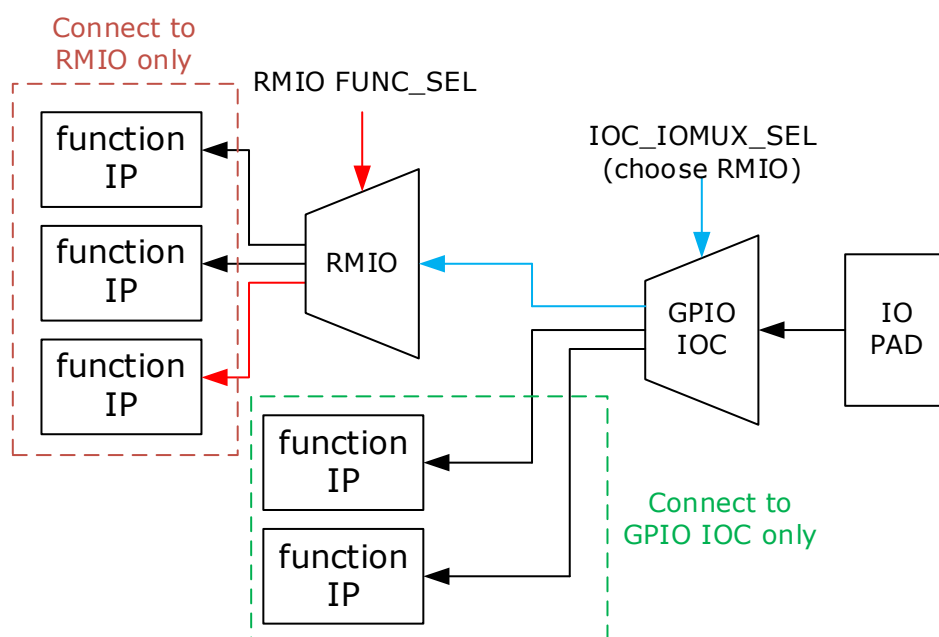

Figure 23-2 Some IPs are connected to the IO PAD through RMIO and IOC
2) As shown in the Figure 23-2, some IP will be connected to the IO PAD via RMIO and IOC. In this case, you need to configure IOC_IOMUX_SEL to select RMIO and then configure RMIO FUNC_SEL so that one of the IP in the orange box is selected to complete stroking with the IO PAD.